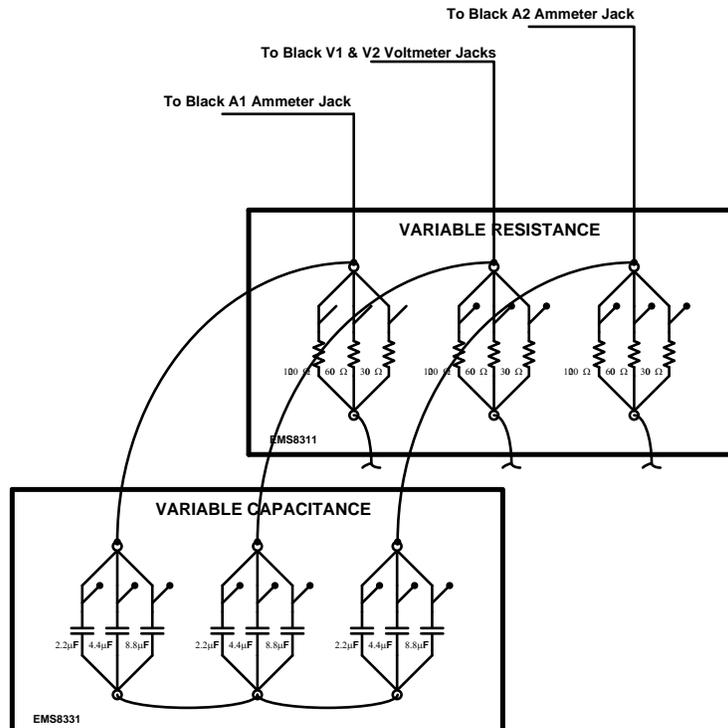

Figure 5: Step 4 Connection Diagram
Step 4A: (IF YOU HAVE THE PM300 POWER ANALYZER) Finally, we can couple the Power Analyzer connections to the Loads as shown in Figure 5